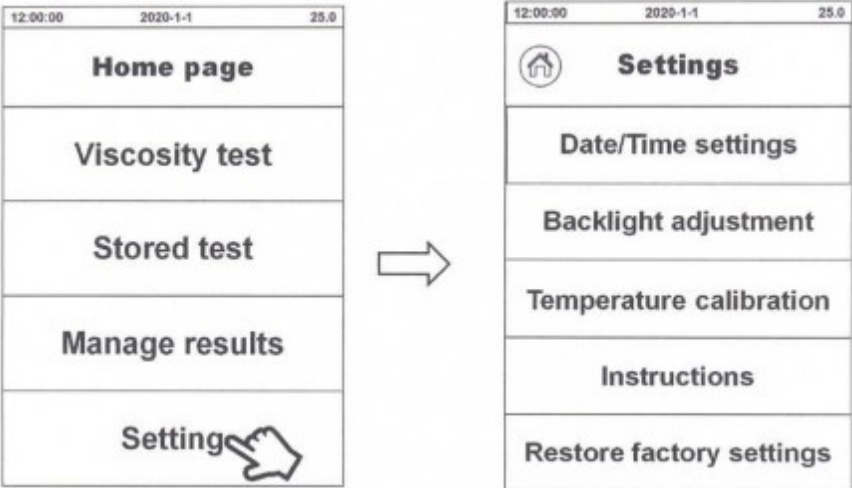

Fig. 27
6.5 , Setting: The general settings of the instrument, time and date, and operation instructions, etc., see Fig. 27 for details.